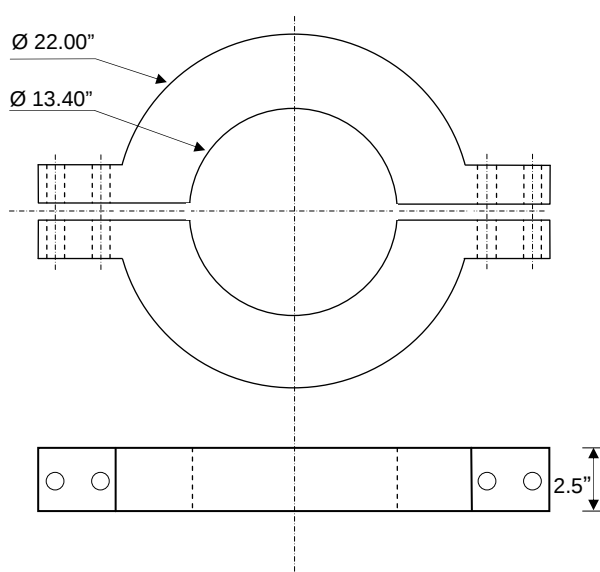

Figure 2-27: Heavy Duty Clamp for Landing 13 $\frac{3}{8}$ " Casing
- Install Heavy Duty Clamp, Figure 2-27 on 13 $\frac{3}{8}$ " casing and land on 18 $\frac{5}{8}$ " casing.